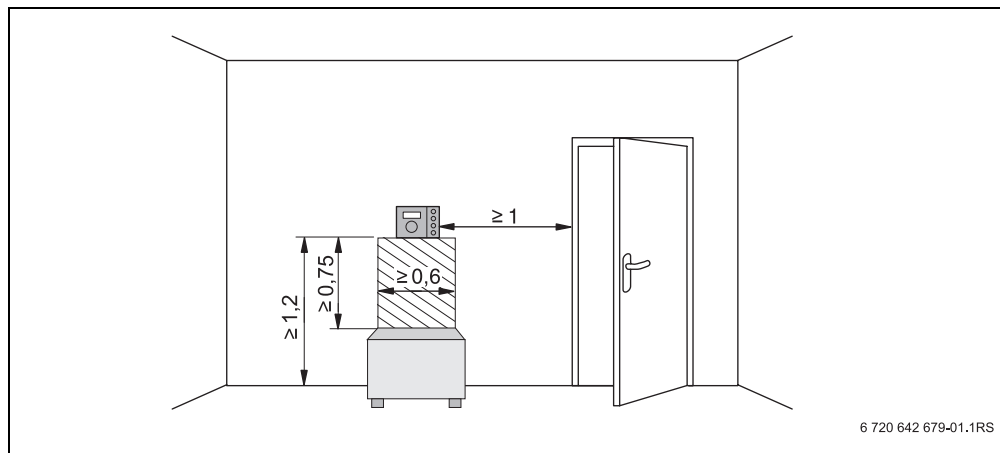

Fig. 1 Minimum clearances for installation in the reference room
- Installation position on an internal wall (→ Fig. 1).
- Allow clearance below the programming unit (→ Fig. 1, shaded area) to ensure correct temperature measurement.